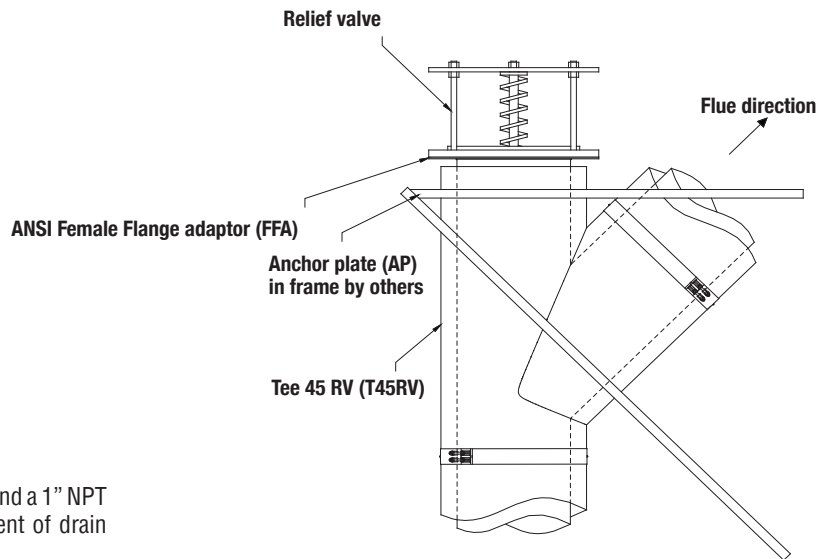

Figure 50 - Relief Valve installation Example
3. The relief valve must be supported independently of the rest of the exhaust system. The best way to accomplish this is to locate an Anchor Plate (AP) support at the joint between the ANSI Flange adaptor and the adjacent fitting. See **Figure 50**.